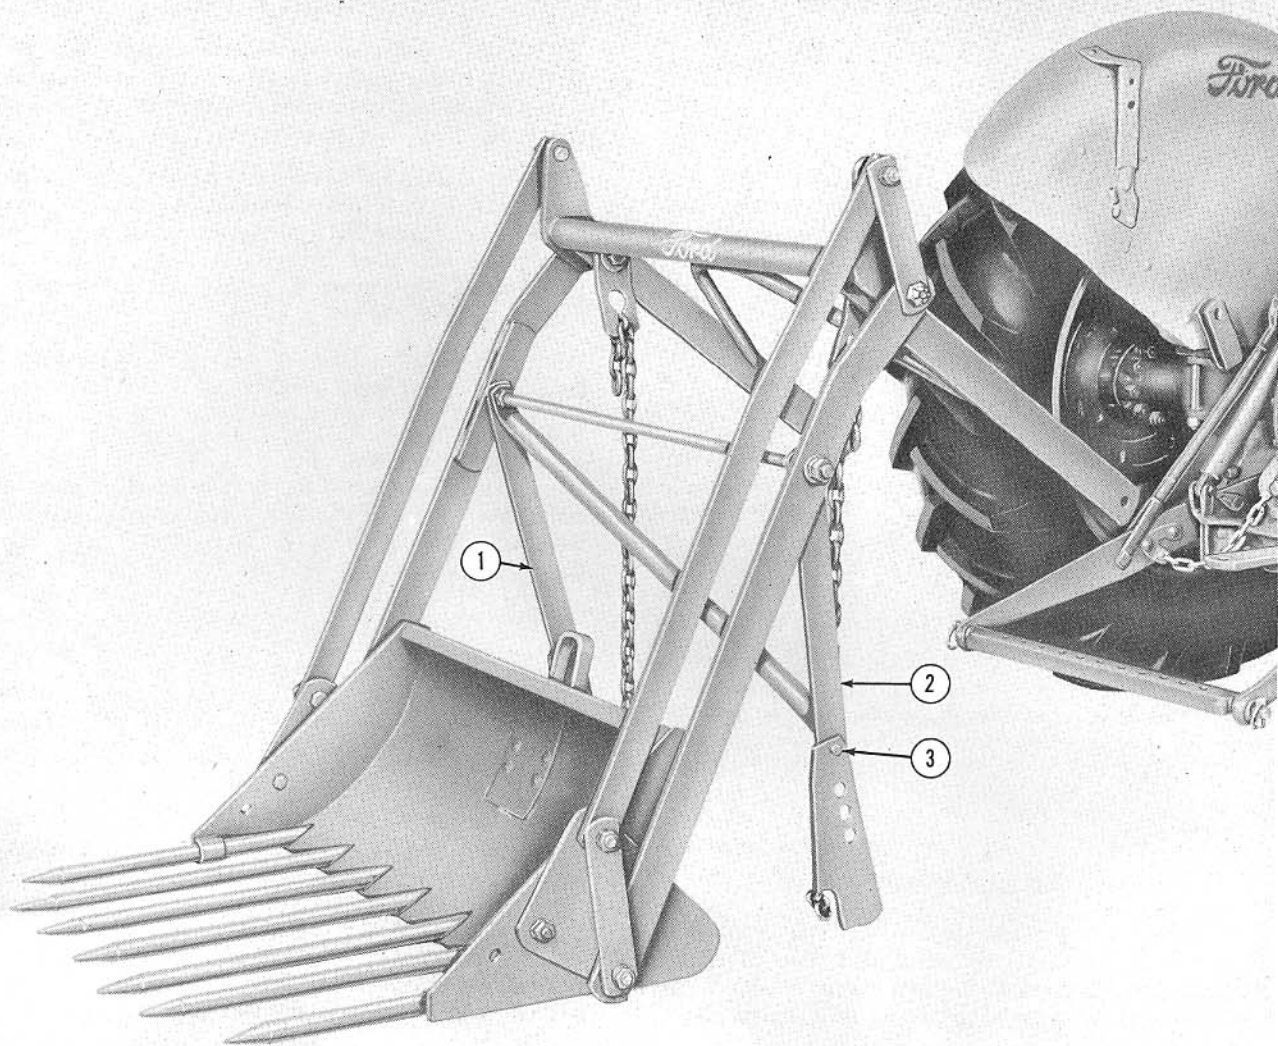

Figure 14
- d. Loosen the nut on the bolt (3), Figure 14, remove the drawbar lynch pins and slip the lift struts (1) and (2) off each end of the drawbar. Replace the lynch pins in the tractor drawbar and brace the loader with the lift struts so that it is in the position shown in Figure 14. Roll the tractor clear of the loader.